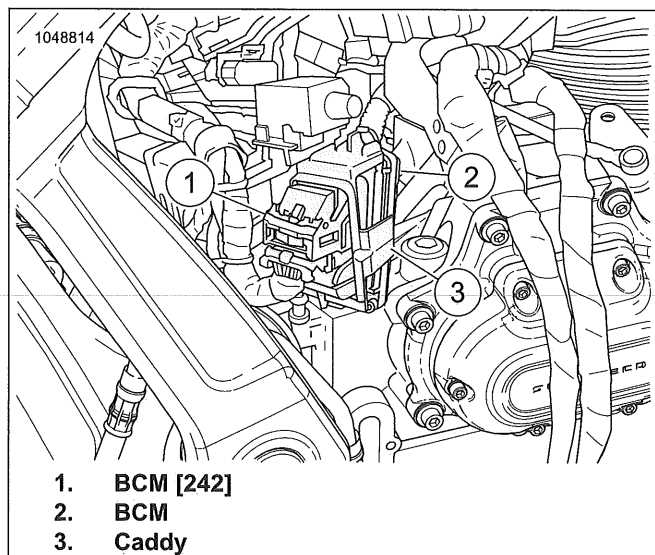

Figure 7-114. BCM [242]
- a. See Figure 7-114. Disconnect BCM [242] (1).
- b. See Figure 7-114. Install BCM (2) into caddy (3).
- c. Connect BCM [242] (1).